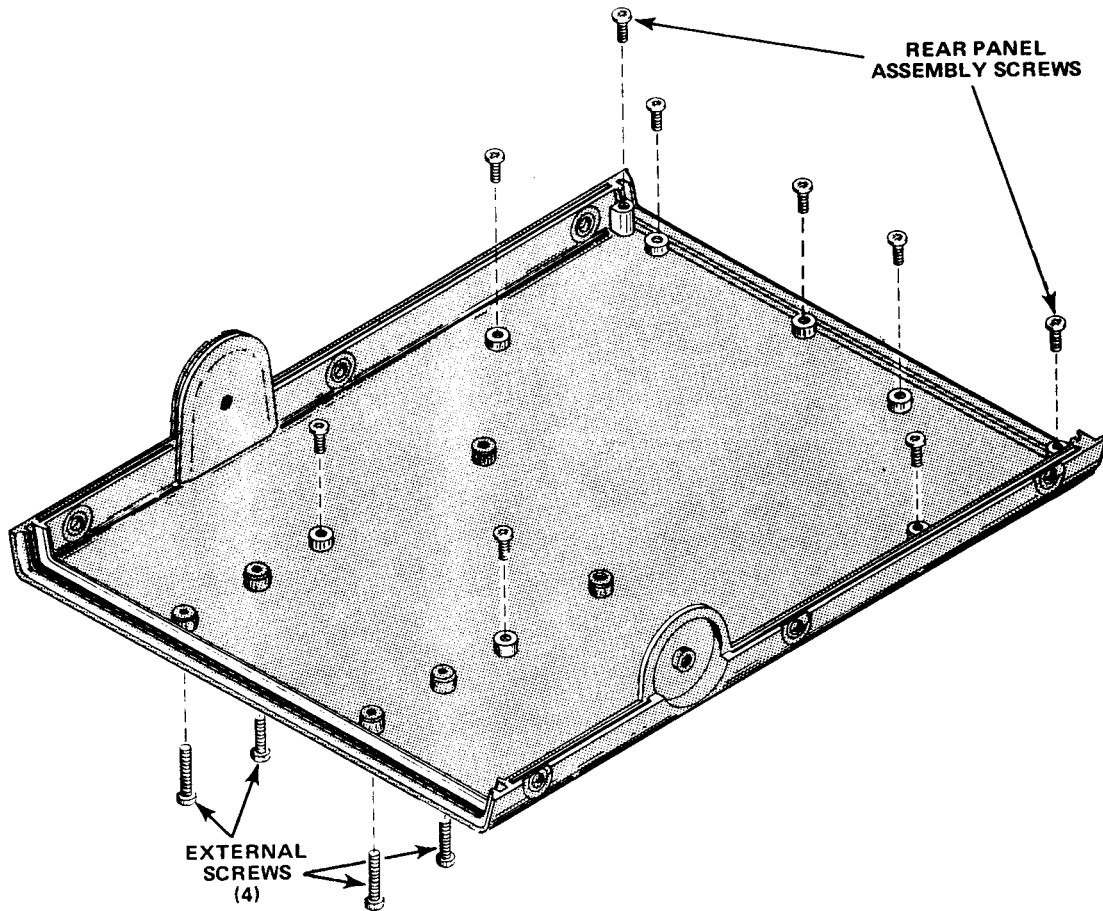
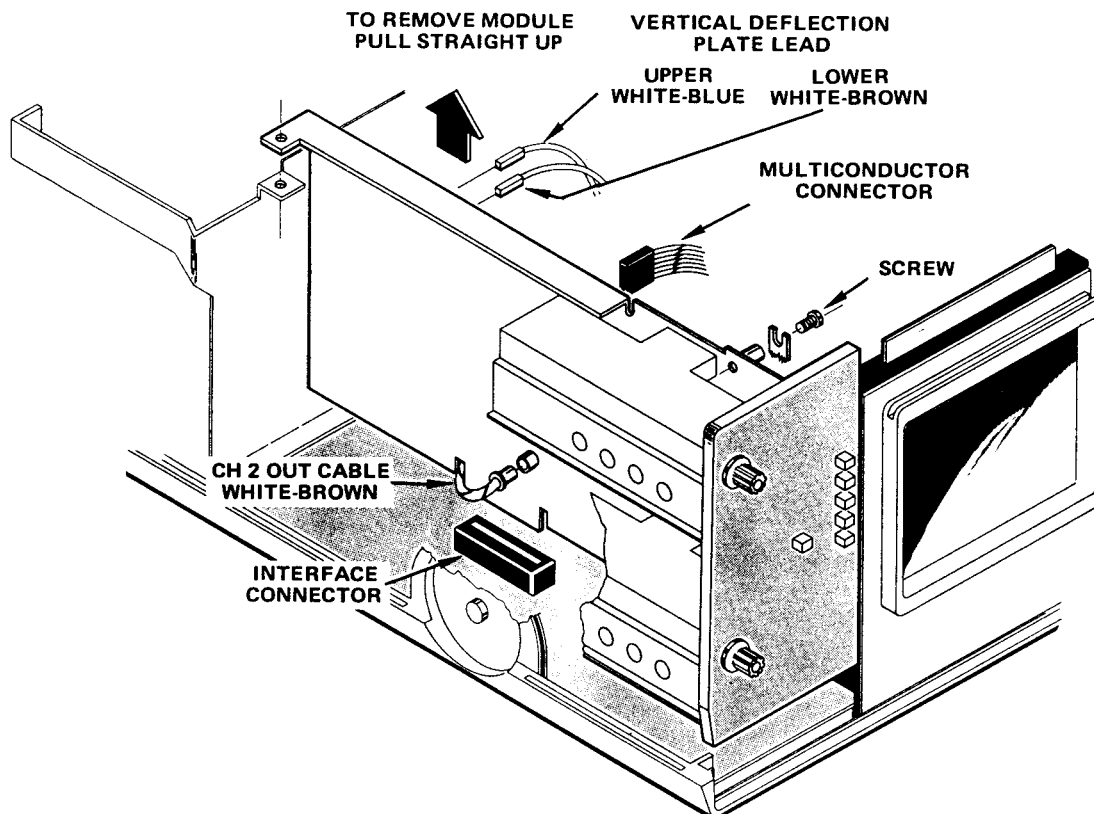
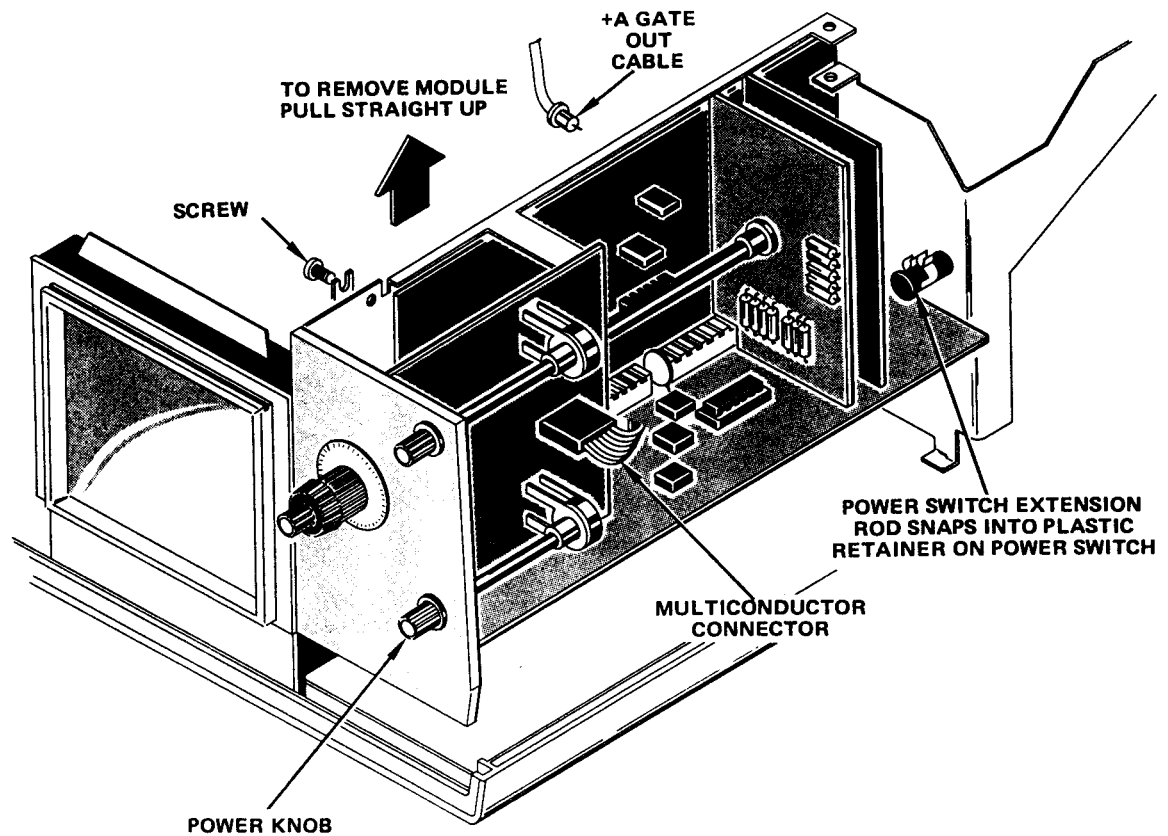

Figure 5-6. Cabinet bottom removal.
Figure 5-7. Vertical module removal.
Figure 5-8. Horizontal module removal.
**d. Cabinet Bottom Removal and Replacement (Figure 5-6).**
- (1) Remove the cabinet top.
- (2) Raise the front of the instrument and remove the four external screws from the cabinet bottom.
- (3) Remove the rear panel assembly.
- (4) Remove the remaining seven internal screws from the cabinet bottom.
(5) Lift the instrument off the cabinet bottom.
(6) Replace the bottom in the reverse order of removal. When installing the four external screws in front part of the cabinet bottom, the floating nuts inside the instrument along side the front part of the crt, may need to be aligned.
**e. Vertical Module Removal (Figure 5-7).**
- (1) Remove the remaining screw holding the module.
- (2) Unplug CH 2 OUT cable, vertical deflection plate leads, and multiconductor connector to the horizontal module.
- (3) Pull plug in module straight up and away from interface connector.
- (4) Reinstall the module in reverse order. Be sure CH 2 OUT cable is routed through cutout at bottom of module.
**f. Horizontal Module Removal (Figure 5-8).**